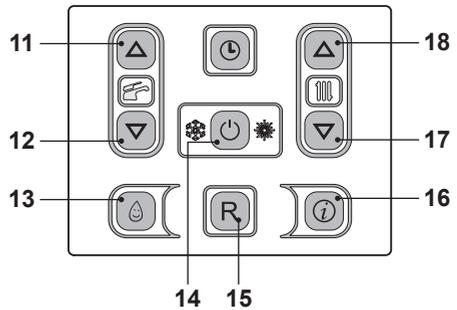
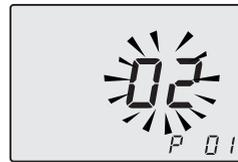

Fig. 7.27
Fig. 7.28
- Enter in "programming mode" by pressing keys 14 - 17 - 18 (Fig. 7.27) for 10 seconds at the same time until the letters **P01** are displayed on the LCD display, indicating that "parameter 01" (Fig. 7.28) has been activated.
- By pressing key 14 (Fig. 7.27) confirmation of the inserted value is obtained.
- Press keys 17 or 18 (Fig. 7.27) to exit without changing the value.